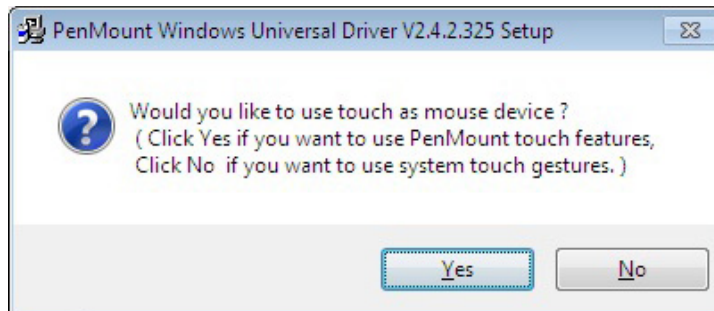

Figure 6-31: Select Touch Features
Step 12: A dialog box as shown in **Figure 6-31** appears. Select **Yes** to use the PenMount touch features or **No** to use the system touch gestures.